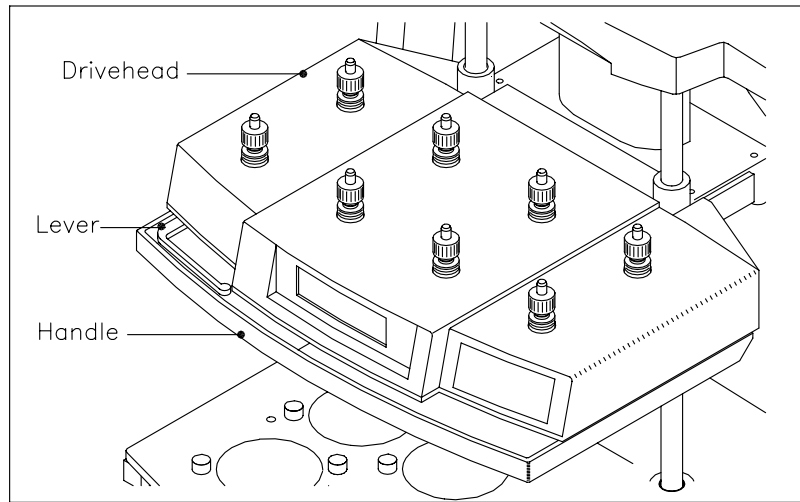

Figure 4-5: Raising the Drive Head
1. Raise the drive head by holding in the lever with the left hand, while pushing up on the handle. (see Figure 4-5)